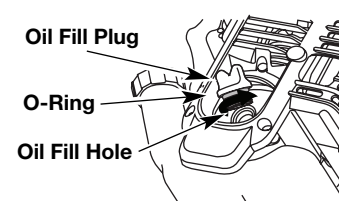

Fig. 41
**NOTE:** Make sure the O-ring is in place on the oil fill plug when checking and changing the oil (Fig. 41).